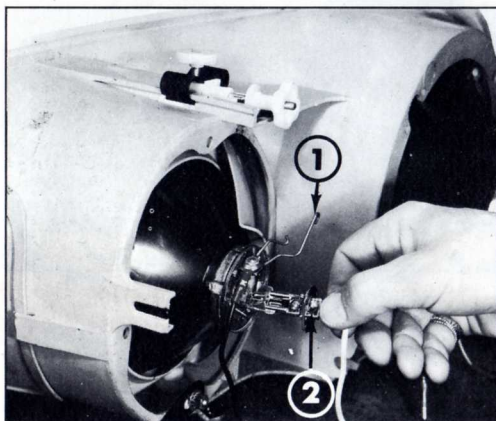

Fig. 39 - Long-range headlamps
**Long-range headlamps (small diameter) with Quartz Iodine bulbs (Fig. 39)**